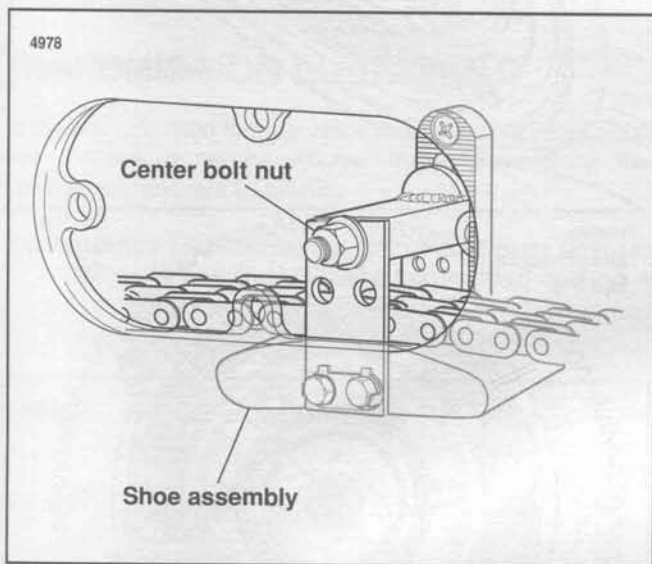

Figure 1-3. Primary Chain Adjustment
3. See Figure 1-3. If freeplay adjustment is required, loosen, but do not remove, the center bolt nut and move the shoe assembly up or down to obtain the specified free play. Tighten center bolt nut to 21-29 ft-lbs (28-39 Nm). Replace the primary chain if it is worn to the point where it cannot be properly adjusted.